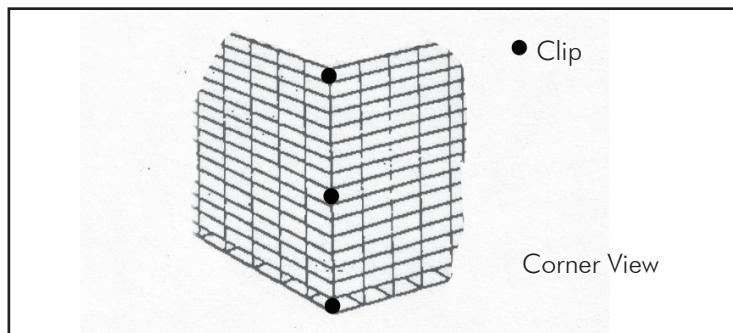

Figure 4
4. Raise two adjoining panels so that they meet at the corner. Fasten clips at each ● shown in Figure 4. Repeat for the other corners.